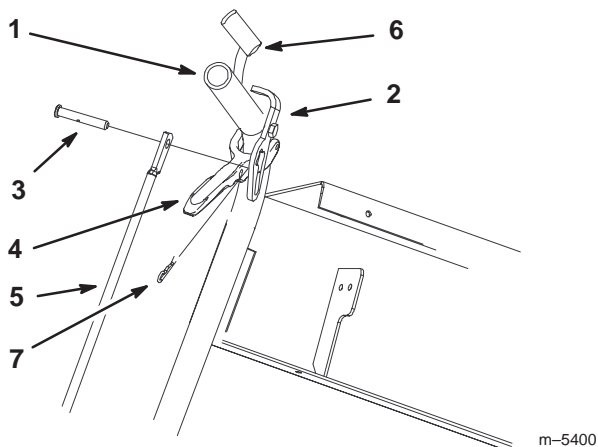

Figure 4
- Install control rod to drive lever and neutral lock using a clevis pin (Fig. 4).
- Install hairpin cotter between drive lever and neutral lock and into clevis pin (Fig. 4).